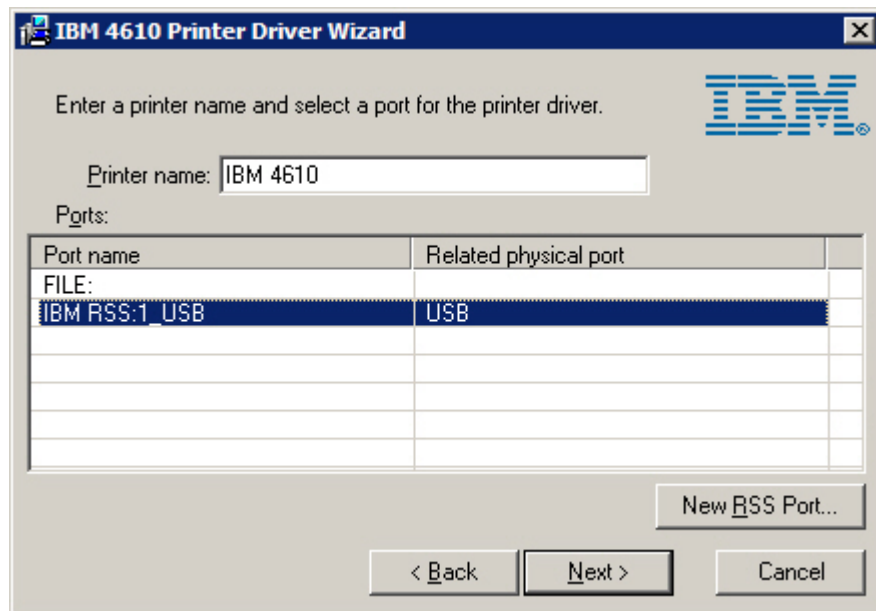

Figure 10. Selecting the new port
9. Select the new port that you added; then click **Next** (see Figure 10).